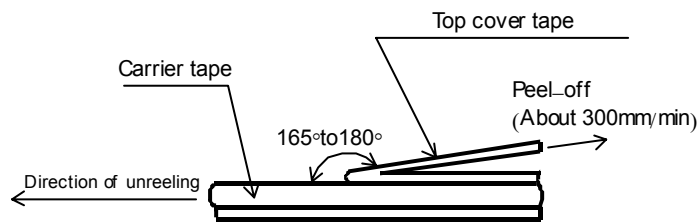

Figure-11
- 5). The peel strength of the top cover tape shall be within 0.1N to 0.5N on the test method as shown in the following Figure-11.